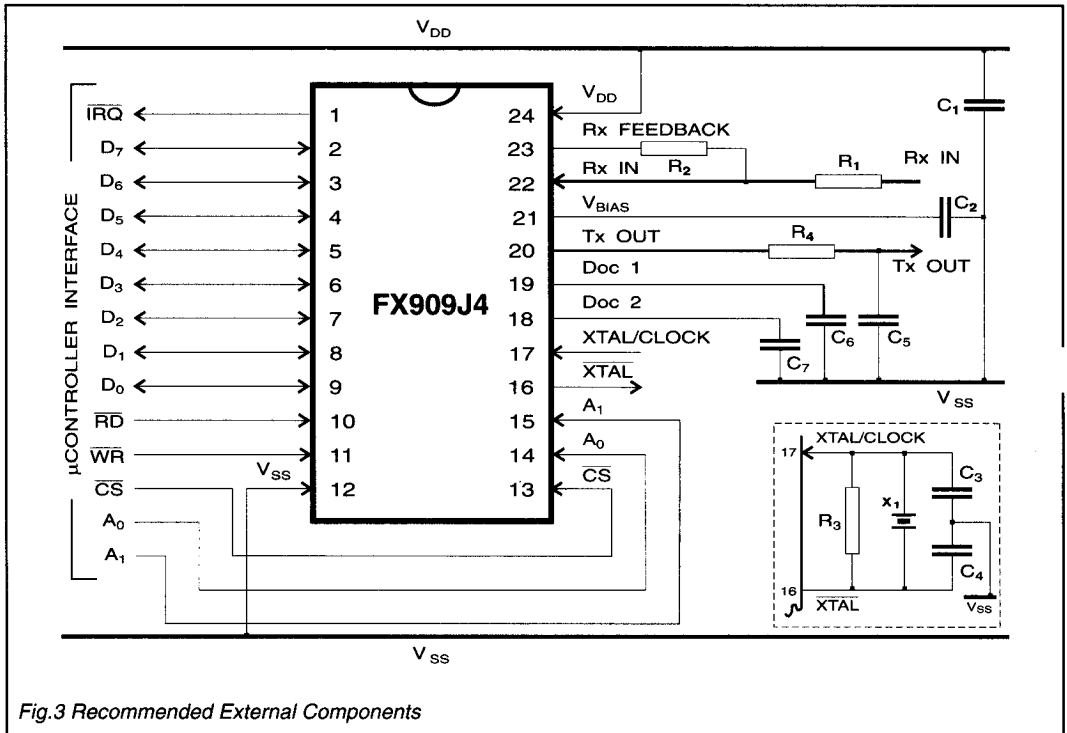

Fig.3 Recommended External Components
18	Doc 2: Connections to the internal Rx signal level measurement circuitry. Capacitors as described in Figure 3 should be fitted between each of these pins and V_{SS} .
- If the on-chip Xtal oscillator is to be used, then the external components X_1 , C_3 , C_4 , and R_3 are required as shown in Figure 3 (inset).